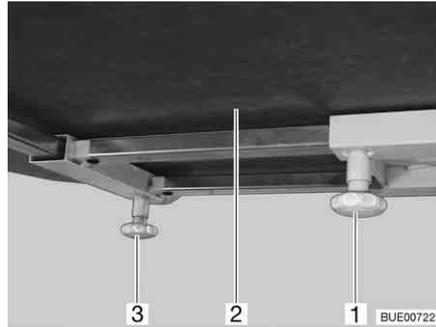

Fig. 114 Moving the table-top (alternative)
- Loosen knurled screw (Fig. 114,1).
- Push the table-top (Fig. 114,2) into the desired position.
- Loosen knurled screw (Fig. 114,3).